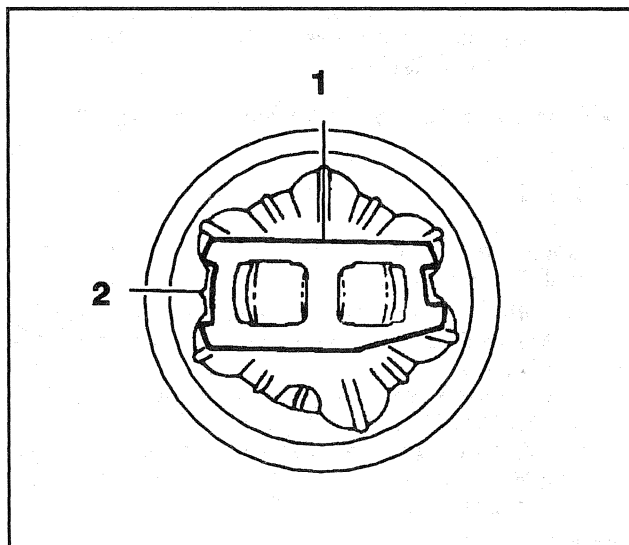

Figure 60—Separating Outer Race and Cage
4. Position the cage and the inner race 90 degrees to the centerline of the outer race and align the cage windows with the lands of the outer race (Figure 60).
6. Rotate the inner race 90 degrees to the center line of the cage with the lands of the inner race aligned with the windows of the cage (Figure 60).
- B. Align the cage windows with the lands. Pivot the cage into position (Figure 60).